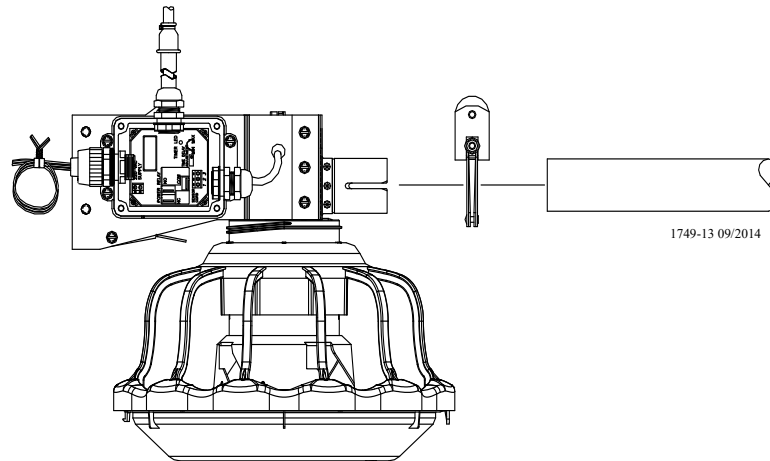

Figure 44. Connecting End Control Unit to the Feed Line Tube
1. Assemble the End Control Unit to the Feeder Line Control Tube using a clamp/anti-roost bracket. See **Figure 44**. **DO NOT INSTALL THE POWER UNIT AT THIS TIME.**